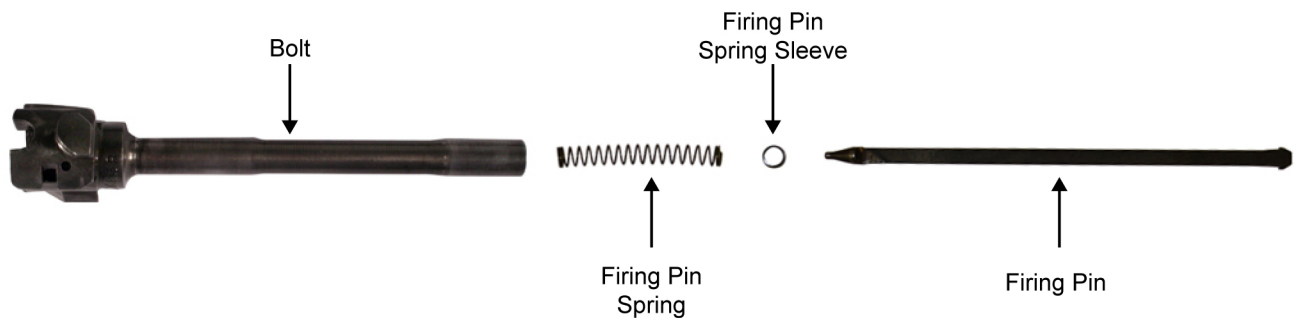

Figure 8. Install the Firing Pin Spring, Firing Pin Spring Sleeve, and Firing Pin.
3. Install the firing pin spring sleeve then firing pin spring onto the firing pin. Not all models of the SVD sniper rifle have firing pin springs and firing pin spring sleeves. Install the firing pin into the bolt. Ensure the cut out of the firing pin is facing towards the firing pin retaining pin hole. Refer to Figure 8.